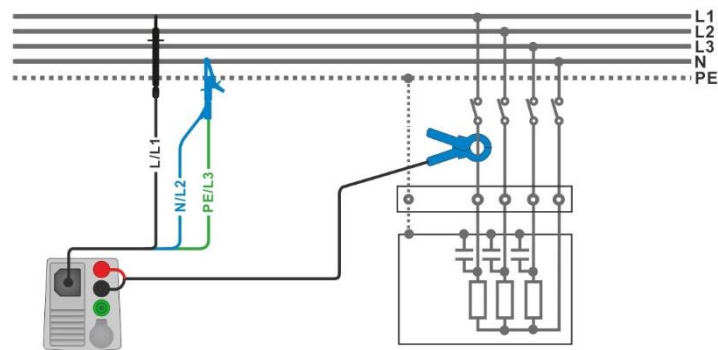

Figure 7.103: Harmonics measurement
- ▶ Connect 3-wire test lead and current clamp to the item to be tested, see *Figure 7.103*.